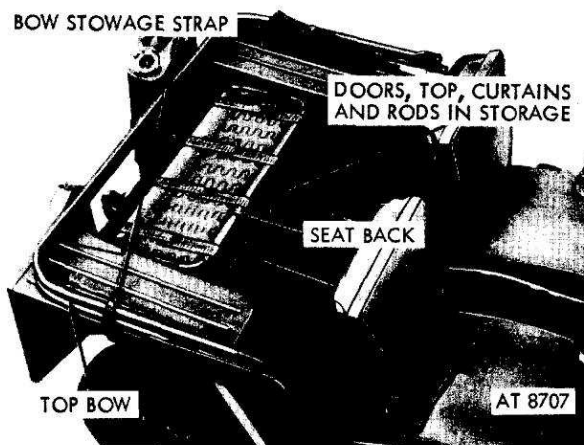

Figure 2-19. Bow stowage straps.
e. Stow remaining curtains and rods in the original position, if only the top is to be installed, and install the seat and retaining pins. Unbuckle the two stowage straps holding the top bows and tip the back of the back seat to forward position. See figure 2-19.